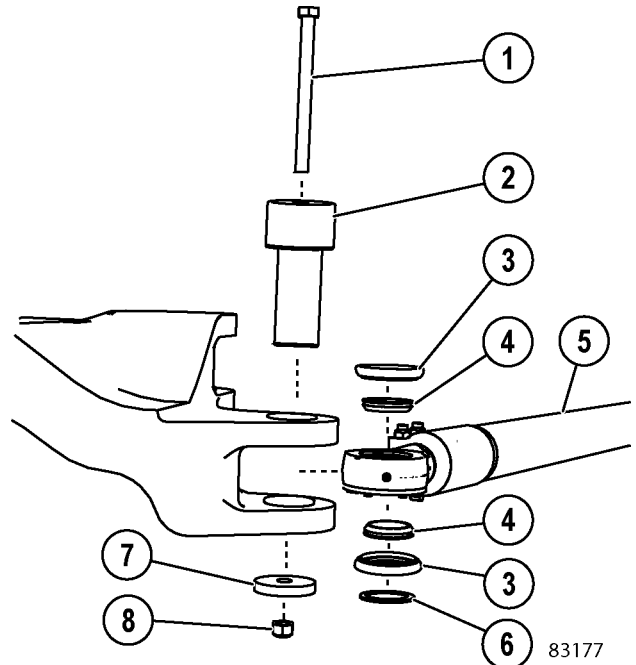

FIGURE 3-12. TIE ROD INSTALLATION (TYPICAL)
4. Remove locknuts (8, Figure 3-12), retainers (7), and cap screws (1) from both ends of the tie rod.
5. Remove pins (2) from each end of the tie rod and move them to a clean work area. Bearing spacers (4) will be free when the pin is removed. **Ensure the bearing spacers do not drop out and become damaged when removing the pin.**
7. Remove seals (3), spacers (4) and washer (6).
1. The tie rod (5, Figure 3-12) weighs approximately 165 kg (364 lb). Use a suitable lifting device to lift the tie into position on the truck.